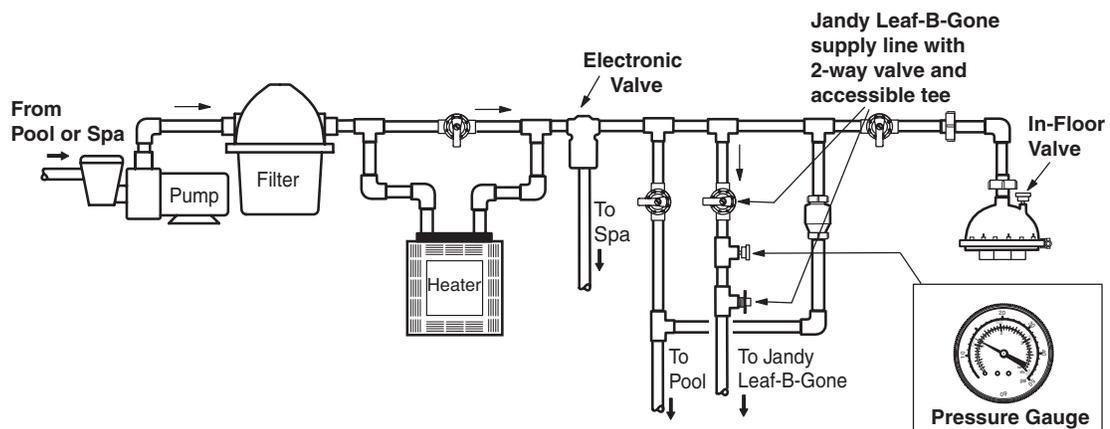

Figure 2. Example of a Jandy Leaf-B-Gone Installation
- In addition to the Pressure Gauge, install a two-way valve and tee with a threaded cap on the Jandy Leaf-B-Gone supply line to control flow and provide access for maintenance (see Figure 2).